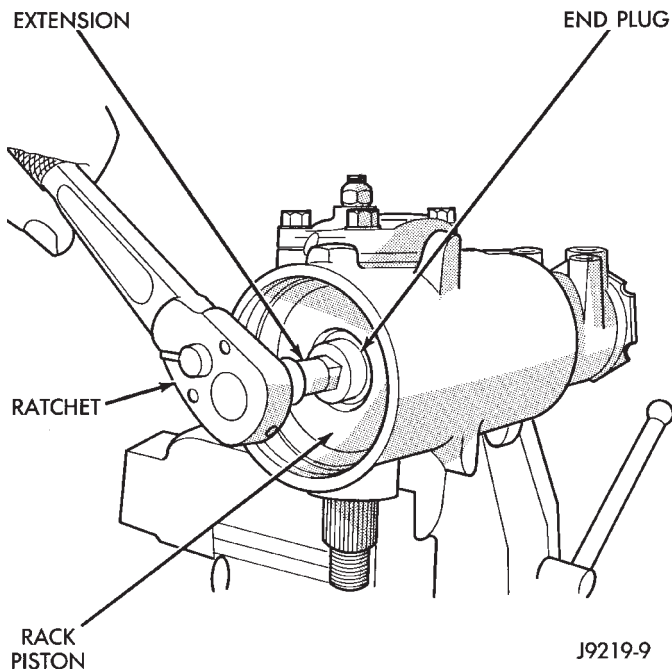

Fig. 20 Rack Piston End Plug
- (1) Remove side cover and pitman shaft.
- (2) Remove housing end plug.
- (3) Remove rack piston plug (Fig. 20).